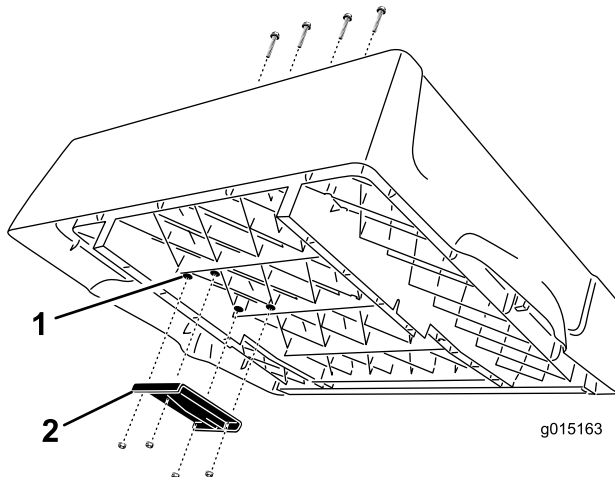

Figure 4
1. Locate the 4 bosses on the underside of the box on the right side (Figure 4). Using a drill with a 3/8 inch bit, carefully drill up through the bosses to make four holes through the floor of the bed.
2. Mount the upper lift bracket to the underside of the box with 4 pan-head, Phillips screws (3/8 x 2-1/2 inches) and flange locknuts (Whiz lock) (3/8 inch). Position the bracket as shown in Figure 4.